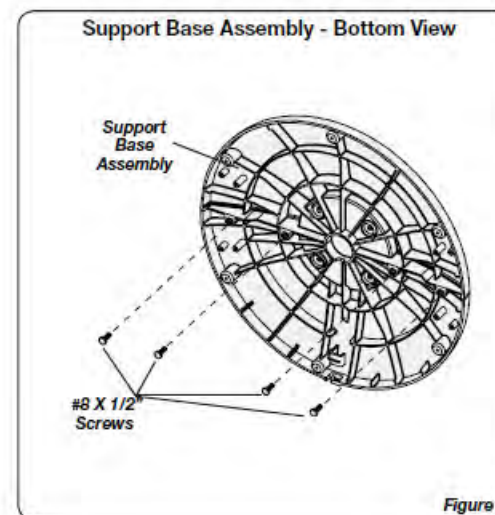

Figure 3
5. Secure the (4) **#8 X 1/2" Screws** into the four holes in the bottom of the base. (**Figure 3**)